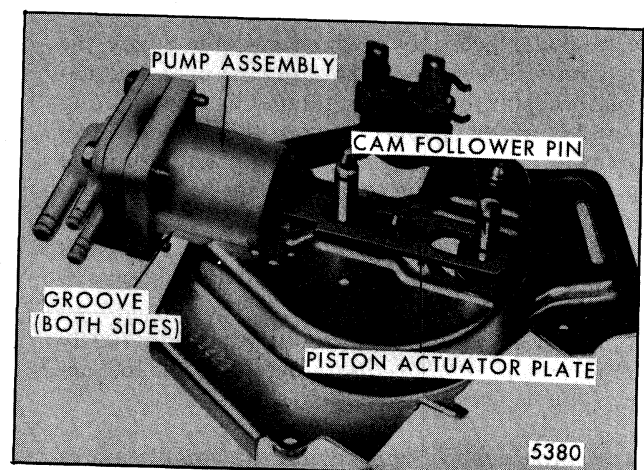

Fig. 2-102-Pump Intake Stroke
Referring to Figure 2-102, note that the elongated slot of the piston actuator plate fits over a pin. This pin is a part of a cam-follower assembly which is actuated by the 4-lobe cam located on the underside of the pump mounting plate. When the wiper is running, the drive gear rotates the 4-lobe cam which in turn causes the cam-follower to move back and forth.
When the cam-follower moves in the direction indicated by the arrow in Figure 2-102, the cam-fol-
2. To release the plastic pump housing from the sheet metal base, pull it in the direction toward the valve end until the grooves in the housing clear the base. Next, detach the assembly from the cam-follower pin (Fig. 2-102).